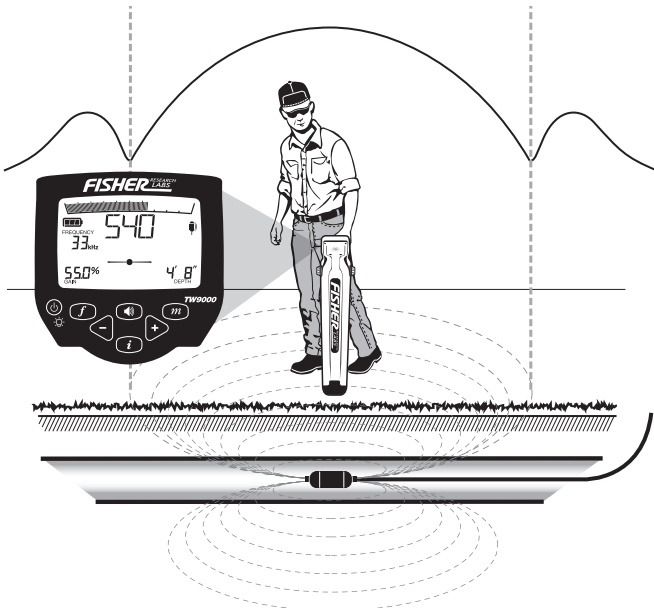

Figure 18. Sonde Signal Strength Response
**STEP 8.** Determine the location of the Sonde. See Figure 18 on page 45.